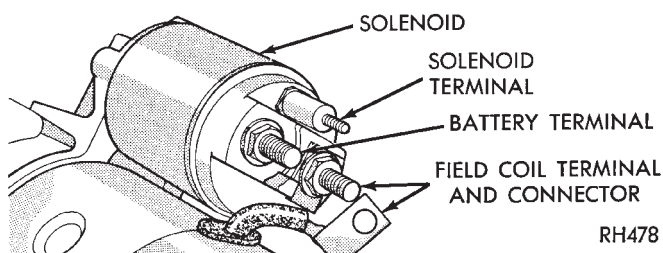

Fig. 16 Field Coil Wire Terminal—Bosch
(1) Disconnect field coil wire from field coil terminal (Fig. 16 or 17).